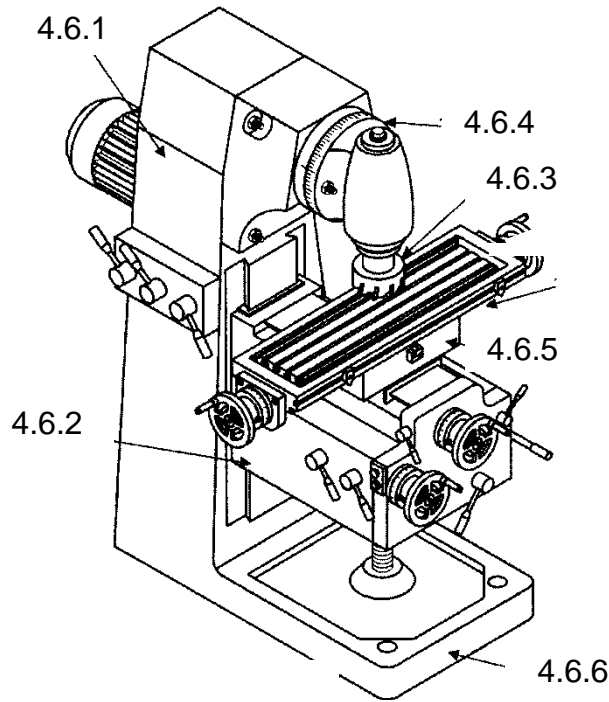

FIGURE 1
4.6 FIGURE 1 (below) shows a milling machine. Name the parts numbered (4.6.1–4.6.6) in the ANSWER BOOK.